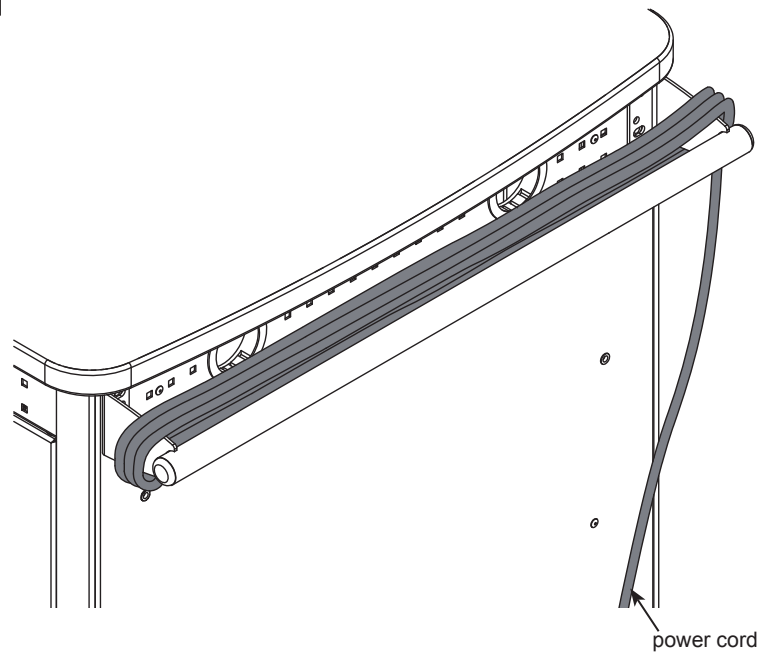

Figure 2
4. The power cord can be wrapped around the handle when not in use. **Figure 2.**